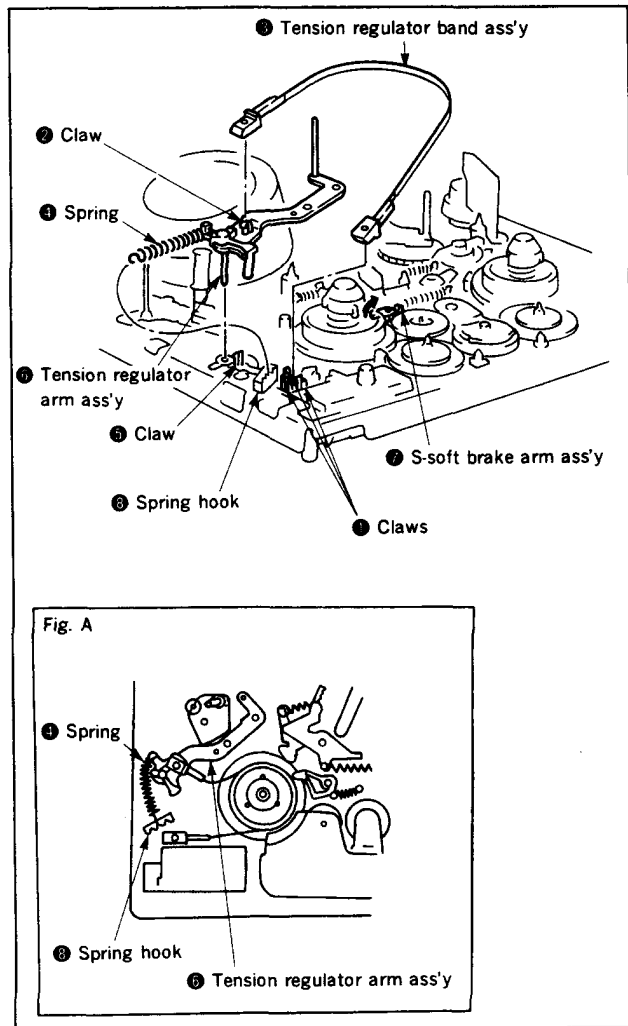

Fig. 3-21.
**3-15. TENSION REGULATOR ARM ASS'Y, TENSION REGULATOR BAND ASS'Y (Fig. 3-21)**